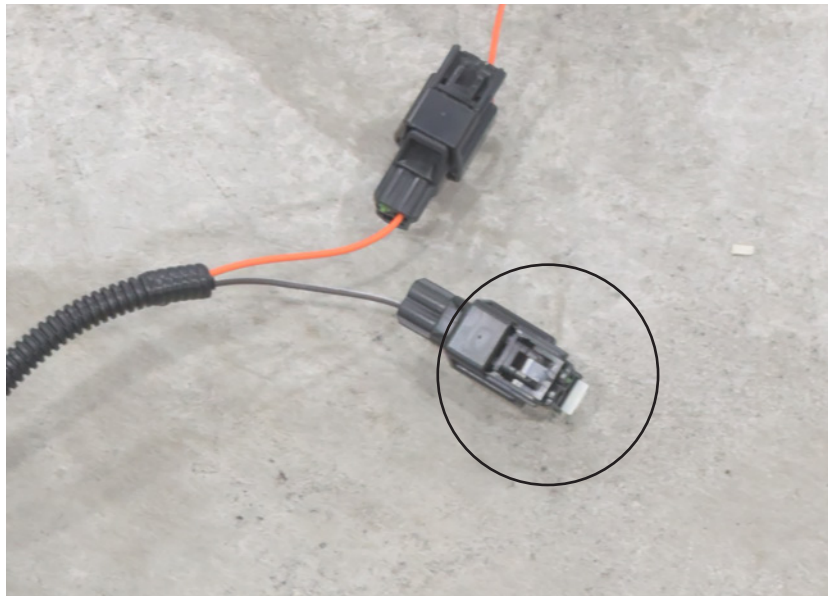

Figure 11
14. Remove the connector with no wires in it from the new fan harness (Fig. 11).